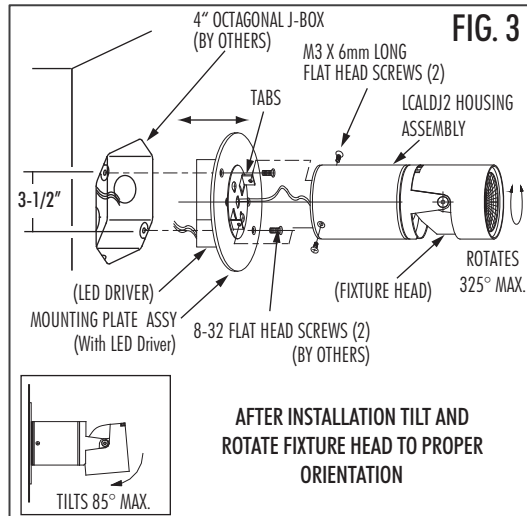

FIG. 3
5. Secure Mounting Plate Assembly (with LED driver) on j-box (by others), LED driver fits in 4" octagonal j-box, with appropriate hardware (by others) (FIG 3). Keep wires from Housing Assembly to Mounting Plate Assembly attached. Do NOT pull on wires from Housing Assembly to LED driver.
6. Align the two (2) tabs on the Mounting plate to the slots in the top of the Housing Assembly (FIG. 3).